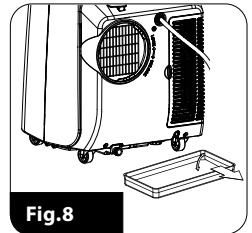

Fig.8
- place a flat dish under the bottom water outlet plug (10)
- unscrew the cap, remove the rubber plug (Fig. 8)